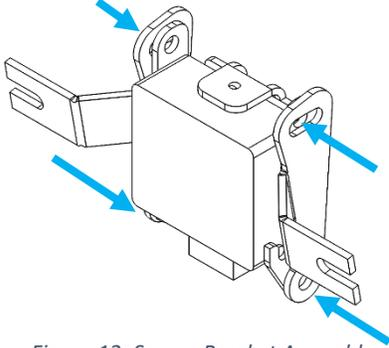

Figure 12: Sensor Bracket Assembly
11. Install collision sensor brackets onto the sensor carriage using the 1/4"-20 x 3/4" bolts, washers, and nuts provided. Reference Figure 12.